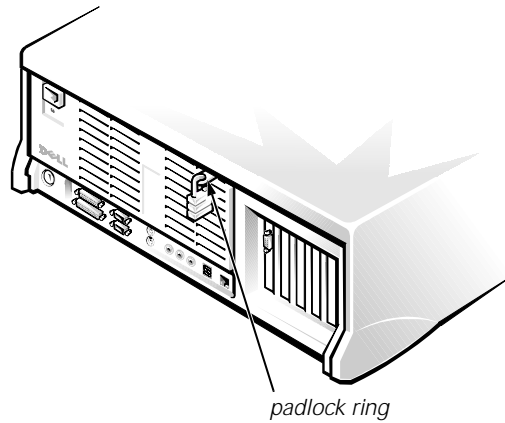

Figure 8-1. Padlock Installed
- 2. If you have installed a padlock through the padlock ring on the back panel (see Figure 8-1), remove the padlock.**